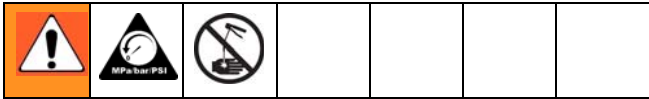

**FIG. 29**
- Replace cover. The cover is designed to only fit on battery compartment one way. The notch (a) on cover fits into slot (b) on compartment. (FIG. 29).